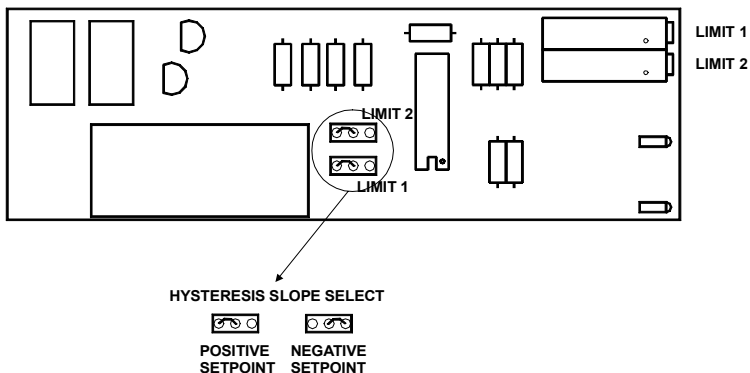

Figure 7 - Hysteresis Jumper Locations
3. Locate and change the hysteresis jumper. Refer to Figure 7 for location and correct settings.